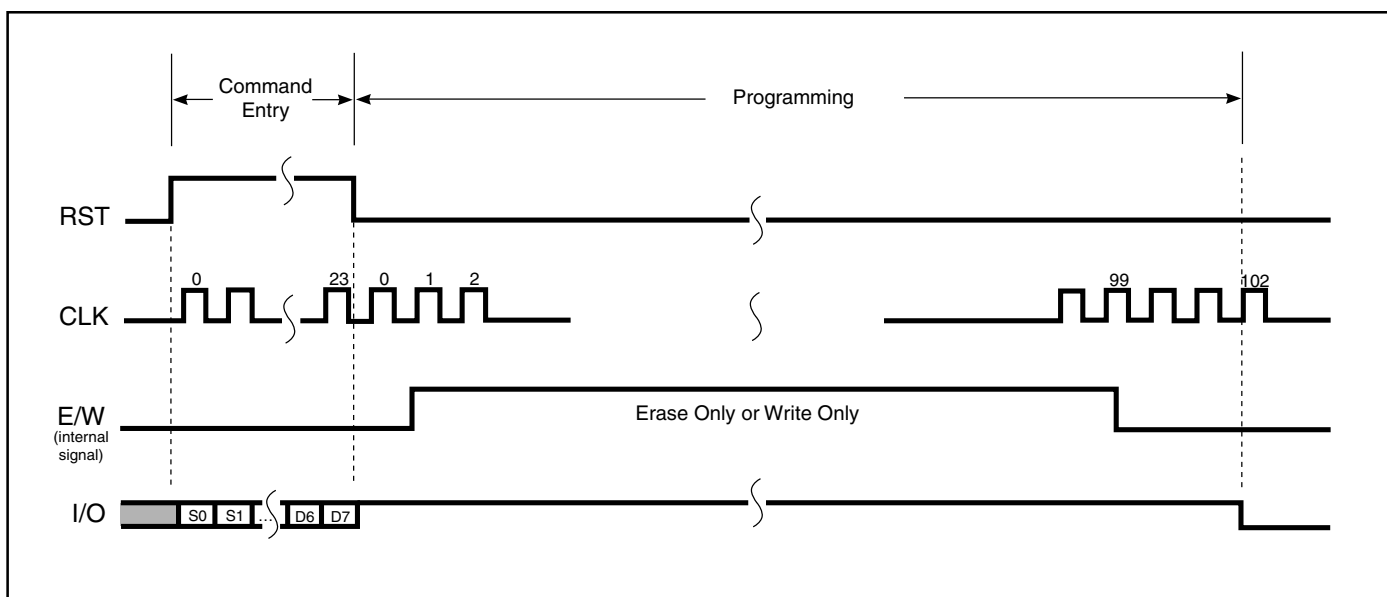

Figure 9. Programming Erase Only or Write Only
2. Write only if 103 clock pulses at  $f < 20$  KHz are applied. This operation is only suitable if single bits of one byte shall be changed only from 1 to 0. (See Figure 9.)
3. Erase only if the input data = FFH and 103 clock pulses at  $f < 20$  KHz are applied. (See Figure 9.)
The write protect bit with data comparison command writes 0 to the corresponding protect bit only if the input data and the data in the specified memory location are the same. After the protect bit is set to 0 (write protection enabled), it cannot be changed again. (See Figure 9.)